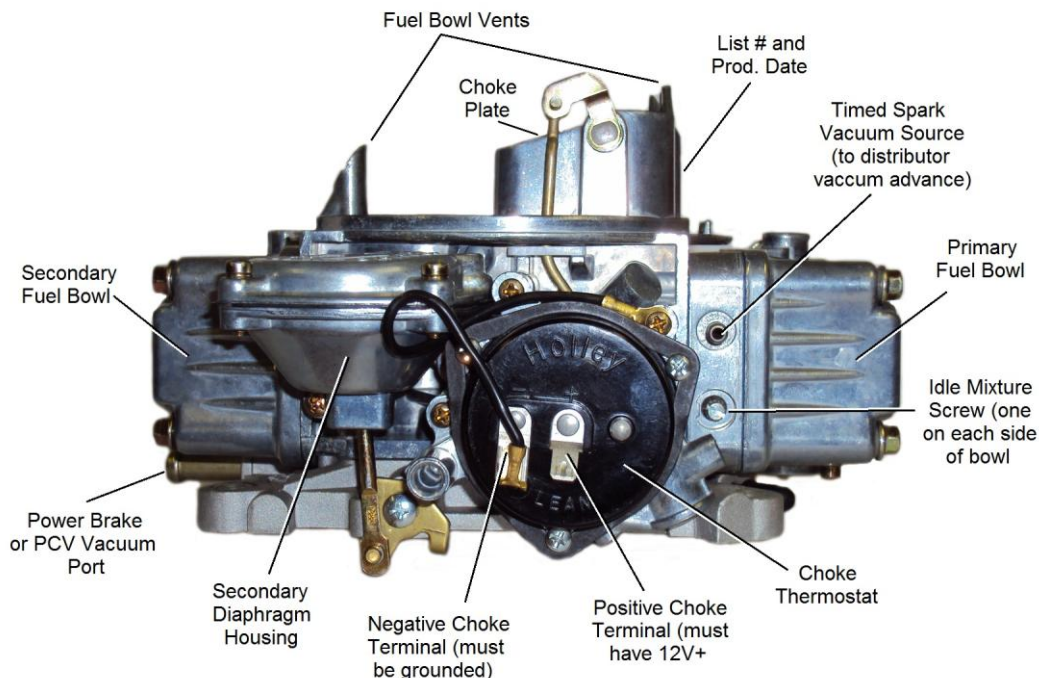
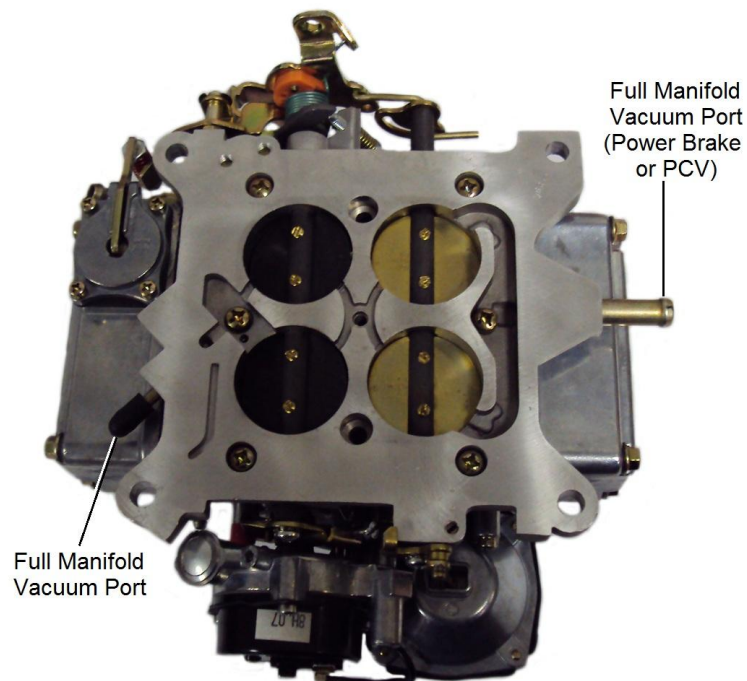

Figure 2a.
Figure 3
6. Reconnect the appropriate vacuum hoses to the carburetor, noting the correct fitting from Figure 2a and Figure 3. Replace any cracked or dry rotted hoses at this time to prevent any vacuum leaks.
8. Connect the power brake and/or PCV hose to the fitting as shown in Figure 3.
1. Attach the vacuum gauge to a manifold vacuum port on the throttle body (Figure 3).